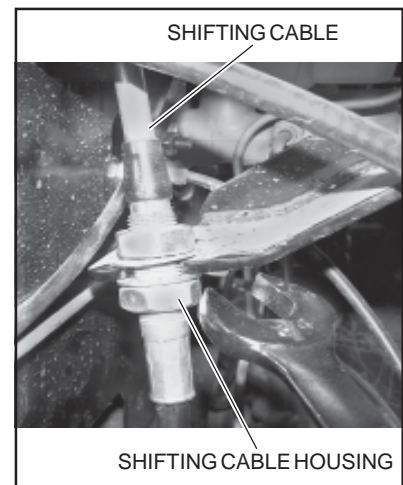

Figure 8
12. Loosen the shifting cable housing lock nuts just enough to remove the housing from the bracket (Figure 8).